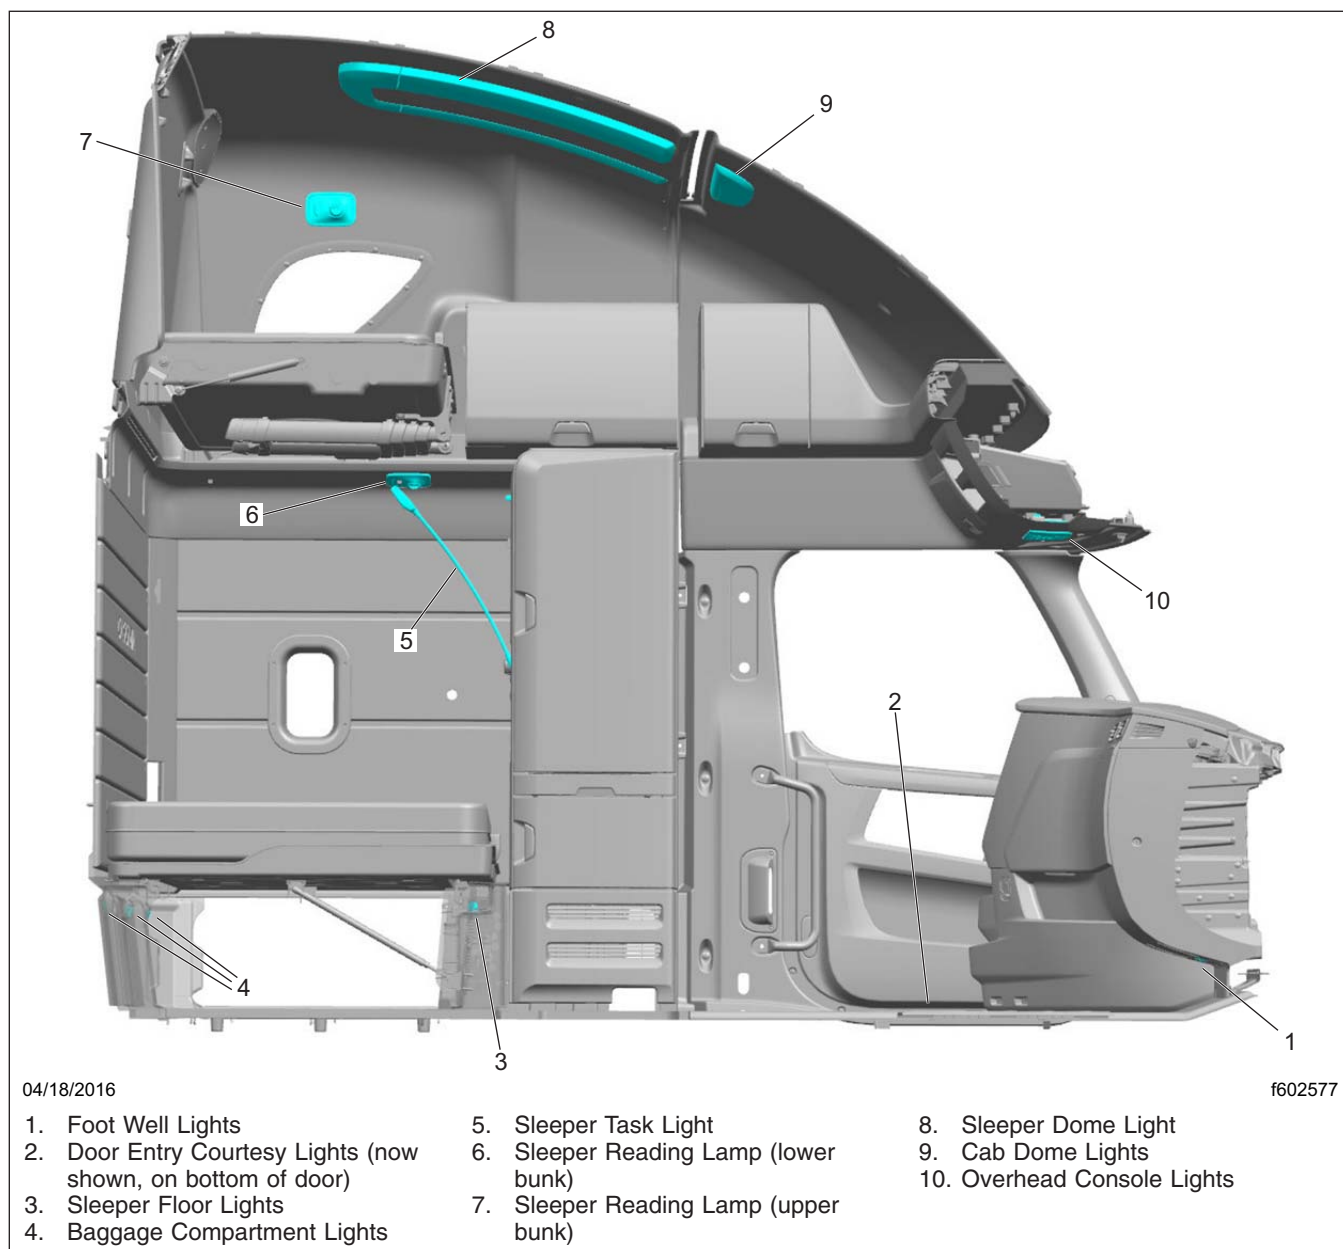

Fig. 4.10, Example of Cab and Sleeper Interior Lighting
Interior Lights may include panel lights, roof lights, foot well and floor lights, courtesy lights, ambient lights, reading lights, task lights, and baggage compartment lights. See Fig. 4.10 for an illustration of common light locations.
Baggage compartment lights are located on both sides of the underside of the lower bunk. See item 4, Fig. 4.10. The lights come on when the lower bunk is raised or when a baggage compartment door is opened.
The sleeper foot well switch activates two lights in front of the lower bunk that illuminate the sleeper floor. See item 3, Fig. 4.10.